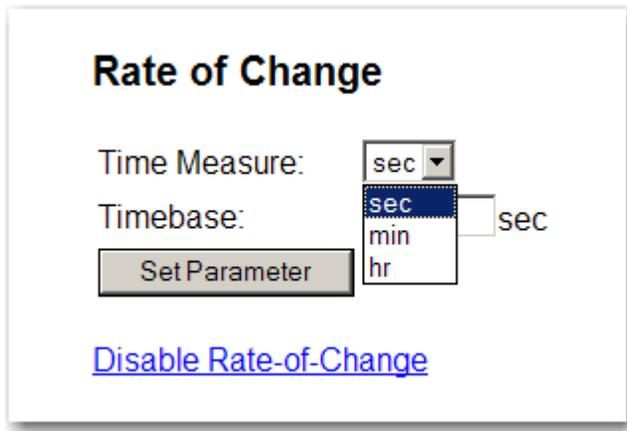

FIG. 255 RATE OF CHANGE PAGE
- Step 9. To set the Time Measure click on the Time Measure pull down menu. (See Fig. 255)